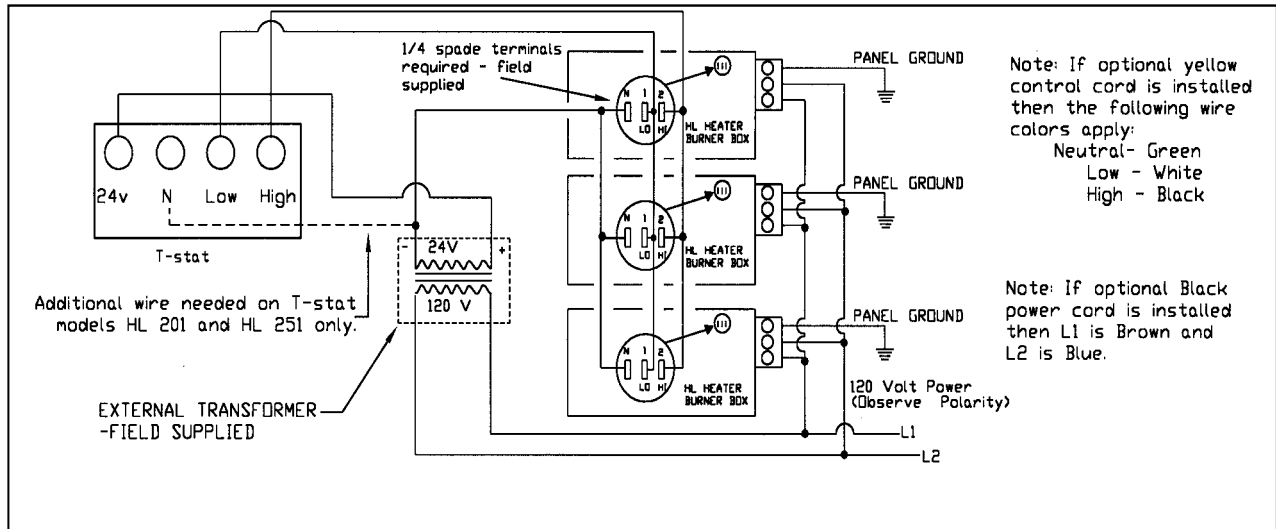

Figure 2-33
**NOTE:** If two or more HL models are to be controlled by a single thermostat, then they **must** be installed with optional relay boards (HLRB) and wired using an external transformer (field supplied), as shown in Figures 2-33, 3-3 and 3-4.